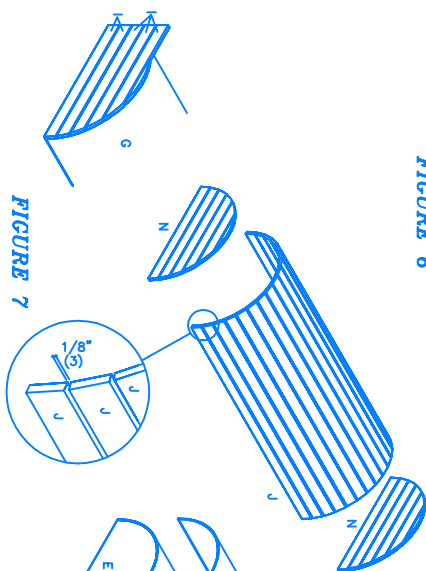

FIGURE 7
- 5) Attach pieces R, J and M to box (Fig 7 & 8). Make a spacer from a piece of scrap 16" long by 1/8" thick to aid in spacing pieces R and J. Glue pieces R to pieces D using the spacer to create the gap between pieces R. Nail pieces R to piece D with 5/8" finishing nails. Set the nails as you go along. Glue pieces J to piece C using the spacer to create the gap between pieces J. Nail pieces J to piece C with 3/4" finishing nails. Note that you may have to trim any excess R using a plane or sander to ensure an even fit. Glue pieces J to piece B using the spacer to create the gap between pieces J. Nail pieces J to piece B with 3/4" finishing nails. Set the nails as you go along. Note that pieces J and R are attached to the sides of the box. Pieces R to the chest lid begin by doing the ends first. Starting at the bottom of piece E trace the curve of piece G onto piece R. Cut both ends of piece R a little longer than your mark. Glue and nail piece R to piece E using 5/8" finishing nails. See (Fig 7). Repeat until all pieces R are attached to pieces E. You may have to plane or sand the top piece R to ensure a flush fit. Set all nails. Starting at the front of this assembly glue and nail pieces J to piece G with 5/8" finishing nails using your spacer to leave a 1/8" space between pieces J. The last piece J may have to be trimmed as previously described. Fill exposed nail and screw holes with a suitable filler and sand. Apply varnish using manufacturer's instructions to exterior of project only.